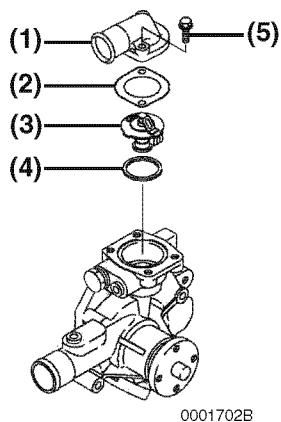

Figure 8-11
1. Install the thermostat (**Figure 8-11, (3)**) using a new O-ring (**Figure 8-11, (4)**).
2. Install the thermostat cover (**Figure 8-11, (1)**) using a new gasket (**Figure 8-11, (2)**). Tighten the thermostat cover bolts (**Figure 8-11, (5)**) to the specified torque.